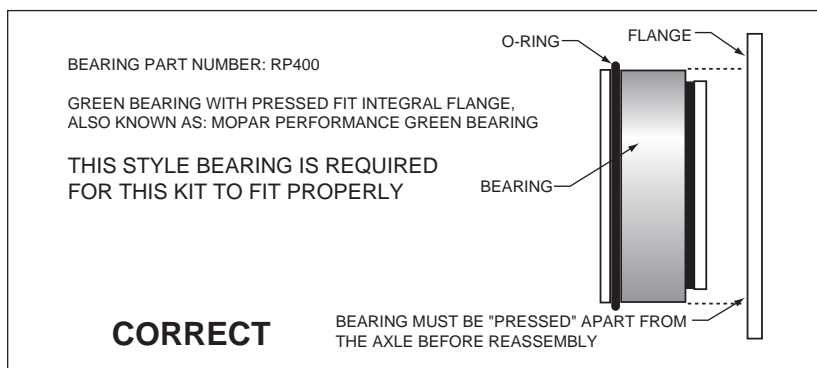

Figure 2. Press Fit Bearing Configuration
- It is important to verify which bearing you have. There are two types of “Green Bearings” being supplied by axle manufacturers. Your setup should look like Figure 2, otherwise you have the wrong kit.
- Determine that the appropriate snap ring style Green bearing has been installed on the axle, as shown in Figure 2.